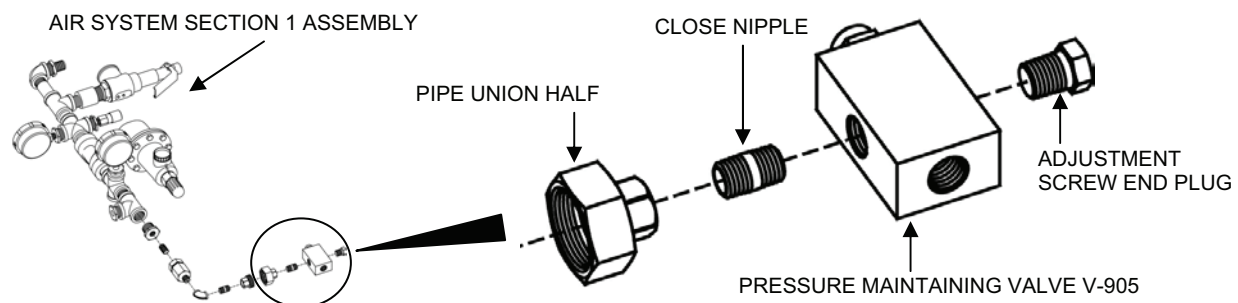

Figure 7. Pressure Maintaining Valve V-905.
2. Remove Pressure Maintaining Valve V-905 from the Air System Section 1 assembly as follows (see Figure 7):